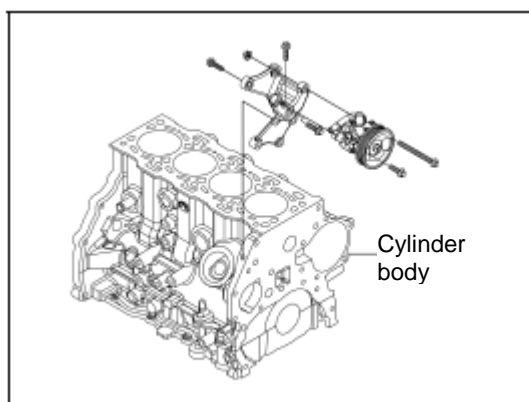

Fig. 5-3-10 Removing the power steering pump assembly
- (1) Remove the fuel inlet hose and the fuel return hose of the power steering pump.
- (2) Remove 1 hexagon flange nut and 1 hexagon flange bolt (M8x30) fastening the power steering pump to the bracket of power steering pump, and then take off the bracket of power steering pump. See Fig. 5-3-10.